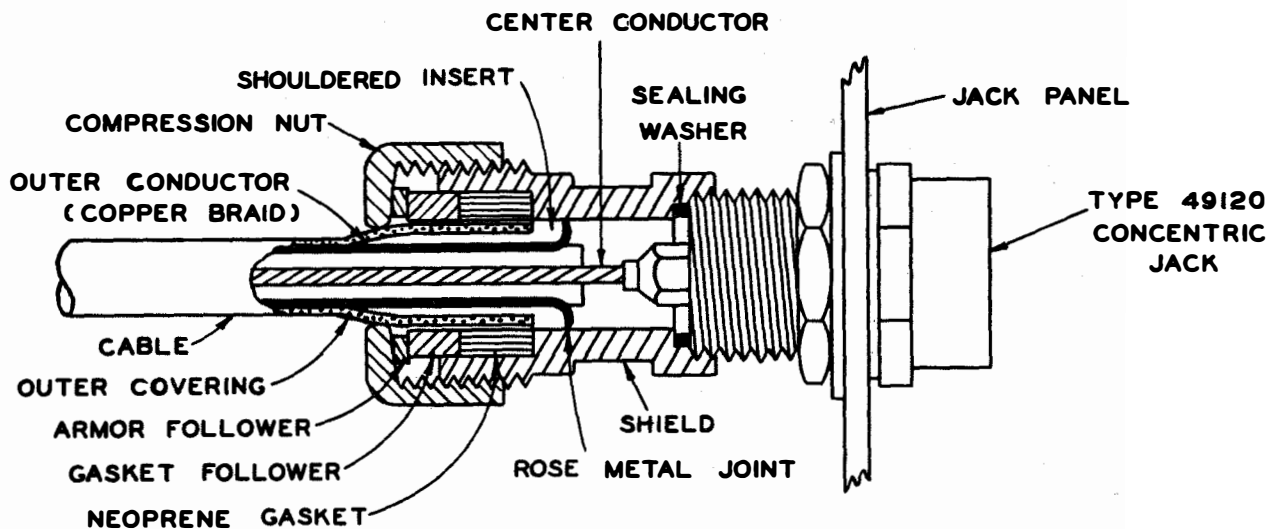

Figure 3-2. Coaxial Jack Termination Assembly Detail, Cross-Sectional View
*e. RECEIVER AND ANTENNA CONNECTIONS.*—All receiver and antenna coaxial cables are routed into the Antenna Multicoupler Assembly through the rectangular hole in the bottom of the cabinet rack. These coaxial cables must be soldered to the coaxial jack terminations in back of the spare jack panels as follows (Figure 3-2):
(1) Unscrew the coaxial jack termination from the back of the coaxial jack.
(2) Slip the coaxial jack termination parts over the cut end of the coaxial in the following order:
(3) Strip off the coaxial cable outer covering for an approximate length of 1 1/8 inches.
(4) Spread the outer conductor (copper braid) and cut off about 1/2 inch of the core and center conductor.